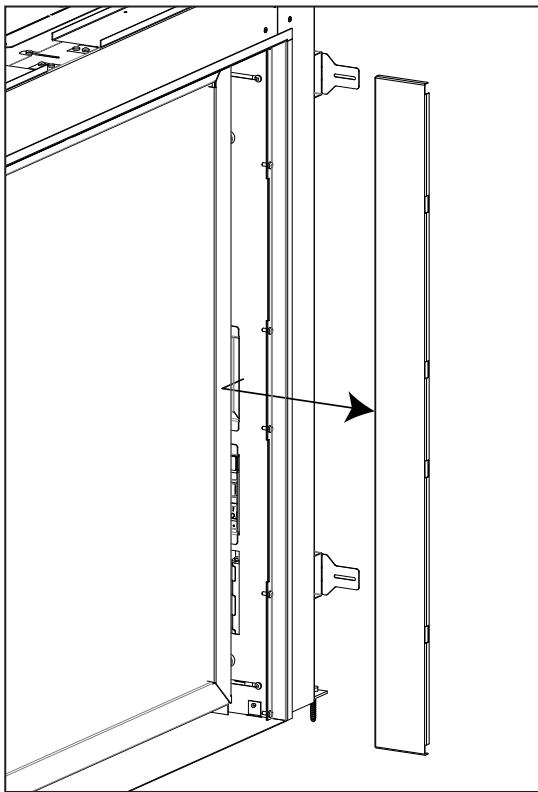

Figure 31: Side Cover Removal
3. On the inside of the cabinet there are two side covers attached via magnets. Gently pull on the side cover until they detach and set them aside (see Figure 31).